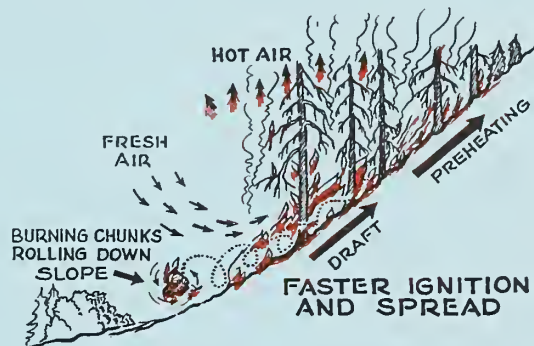

Figure 1.--Slope.
42.3 - Slope. Slope greatly affects the spread of fire in two ways: by preheating and draft (figure 1). A fire will run faster uphill than it will downhill if the wind is not strong enough to otherwise influence the spread. On the uphill side the flames are closer to the fuel. This causes preheating and faster ignition. Heat rises along the slope causing a draft which further increases the rate of spread.